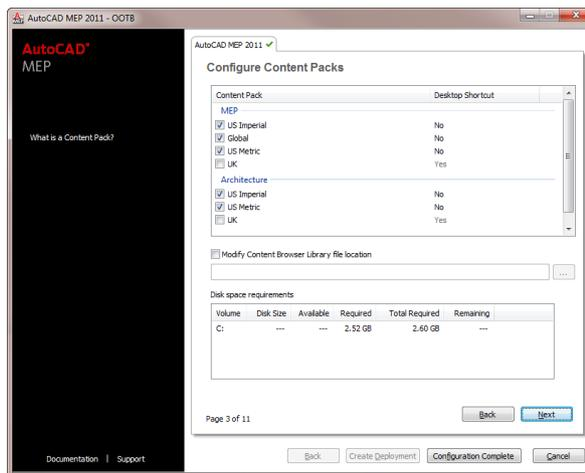

Figure 2: No default shortcuts on desktop
1. Change the content packs to *not* install desktop shortcuts (see Figure 2).